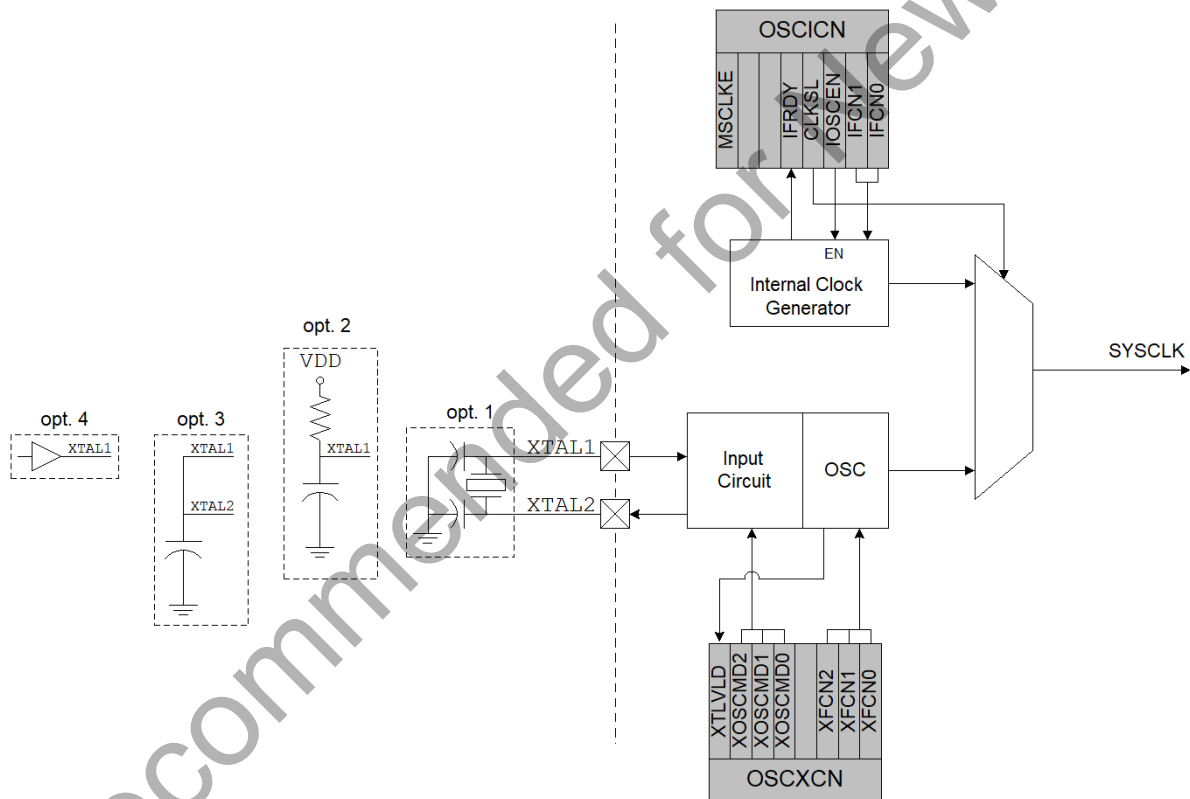

Figure 13.1. Oscillator Diagram
Both oscillators are disabled when the  $\overline{\text{RST}}$  pin is held low. The MCU can run from the internal oscillator permanently, or it can switch to the external oscillator if desired using CLKSL bit in the OSICN Register. The external oscillator requires an external resonator, crystal, capacitor, or RC network connected to the XTAL1/XTAL2 pins (see Figure 13.1). The oscillator circuit must be configured for one of these sources in the OSCXCN register. An external CMOS clock can also provide the system clock by driving the XTAL1 pin. The XTAL1 and XTAL2 pins are NOT 5 V tolerant.
**CRYSTAL MODE** (Circuit from Figure 13.1, Option 1; XOSCND = 11x)
**RC MODE** (Circuit from Figure 13.1, Option 2; XOSCND = 10x)
**C MODE** (Circuit from Figure 13.1, Option 3; XOSCND = 10x)
If a crystal were used to generate the system clock for the MCU, the circuit would be as shown in Figure 13.1, Option 1. For an ECS-110.5-20-4 crystal, the resonate frequency is 11.0592 MHz, the intrinsic capacitance is 7 pF, and the ESR is 60 W. The compensation capacitors should be 33 pF each, and the PWB parasitic capacitance is estimated to be 2 pF. The appropriate External Oscillator Frequency Control value (XFCN) from the Crystal column in the table in SFR Definition 13.2 (OSCXCN Register) should be 111b.
If an external RC network were used to generate the system clock for the MCU, the circuit would be as shown in Figure 13.1, Option 2. The capacitor must be no greater than 100 pF, but using a very small capacitor will increase the frequency drift due to the PWB parasitic capacitance. To determine the required External Oscillator Frequency Control value (XFCN) in the OSCXCN Register, first select the RC network value to produce the desired frequency of oscillation. If the frequency desired is 100 kHz, let R = 246 kW and C = 50 pF:
If an external capacitor were used to generate the system clock for the MCU, the circuit would be as shown in Figure 13.1, Option 3. The capacitor must be no greater than 100 pF, but using a very small capacitor will increase the frequency drift due to the PWB parasitic capacitance. To determine the required External Oscillator Frequency Control value (XFCN) in the OSCXCN Register, select the capacitor to be used and find the frequency of oscillation from the equations below. Assume  $V_{DD} = 3.0 \text{ V}$  and  $C = 50 \text{ pF}$ :